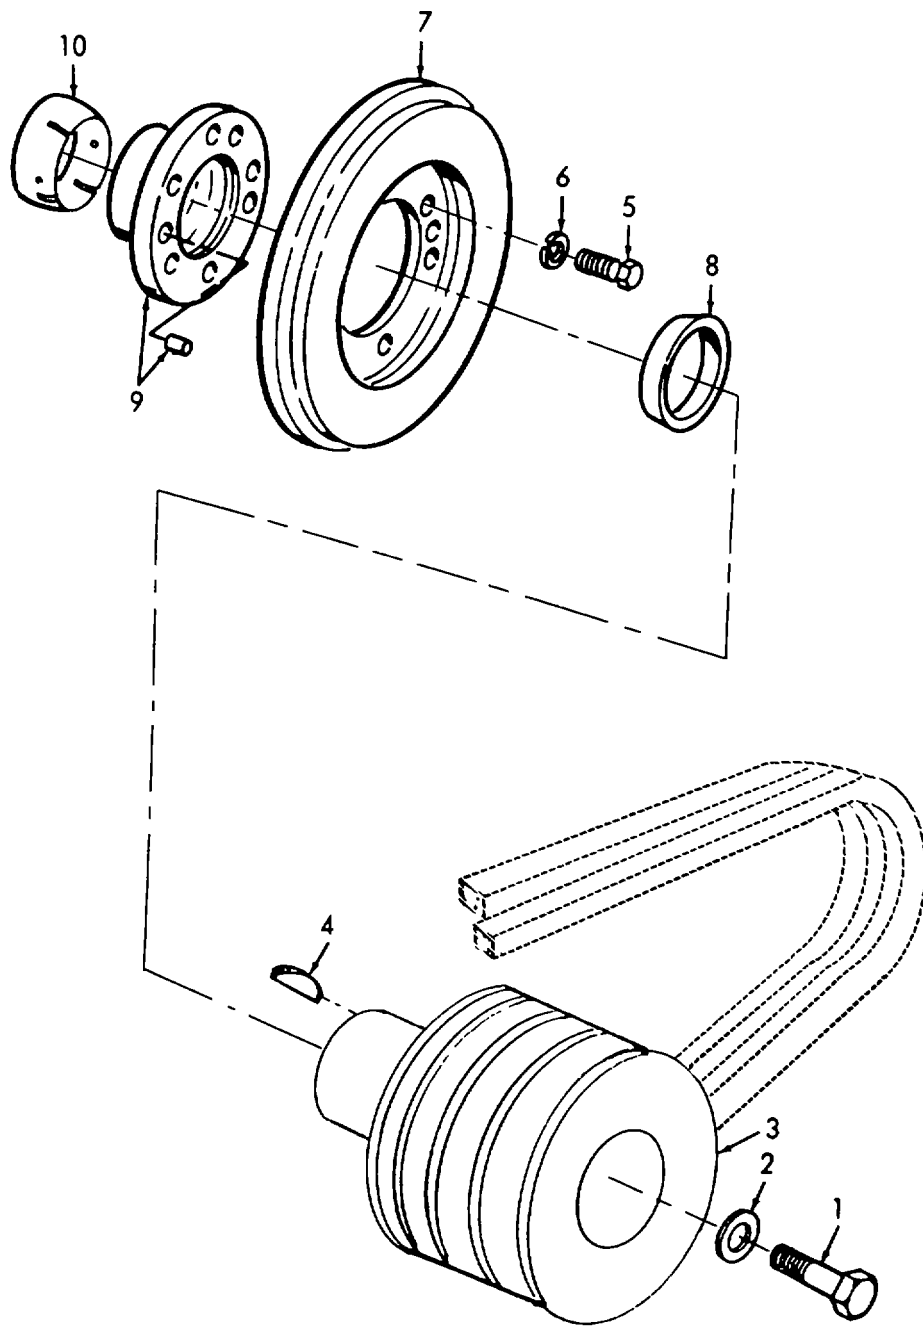

Figure 3-64. Crankshaft Pulley and Damper, Removal/Installation.
**a. Removal.** (Refer to figure 3-64).
- (1) Remove pulley retaining bolt (1) and flat washer (2).
- (2) Use the gear puller and remove the pulley (3) and two keys (4).
- (3) Remove six screws (5) and six lockwashers (6).
- (4) Reinstall flat washer (2) and bolt (1) to use with gear puller.
- (5) Use the gear puller and ease the damper (7) and hub (9) toward end of crankshaft.
- (6) Remove bolt (1) and flat washer (2).
- (7) Remove outer cone (8).
- (8) Remove damper (7) and hub (9) as an assembly.
- (9) Remove inner cone (10).